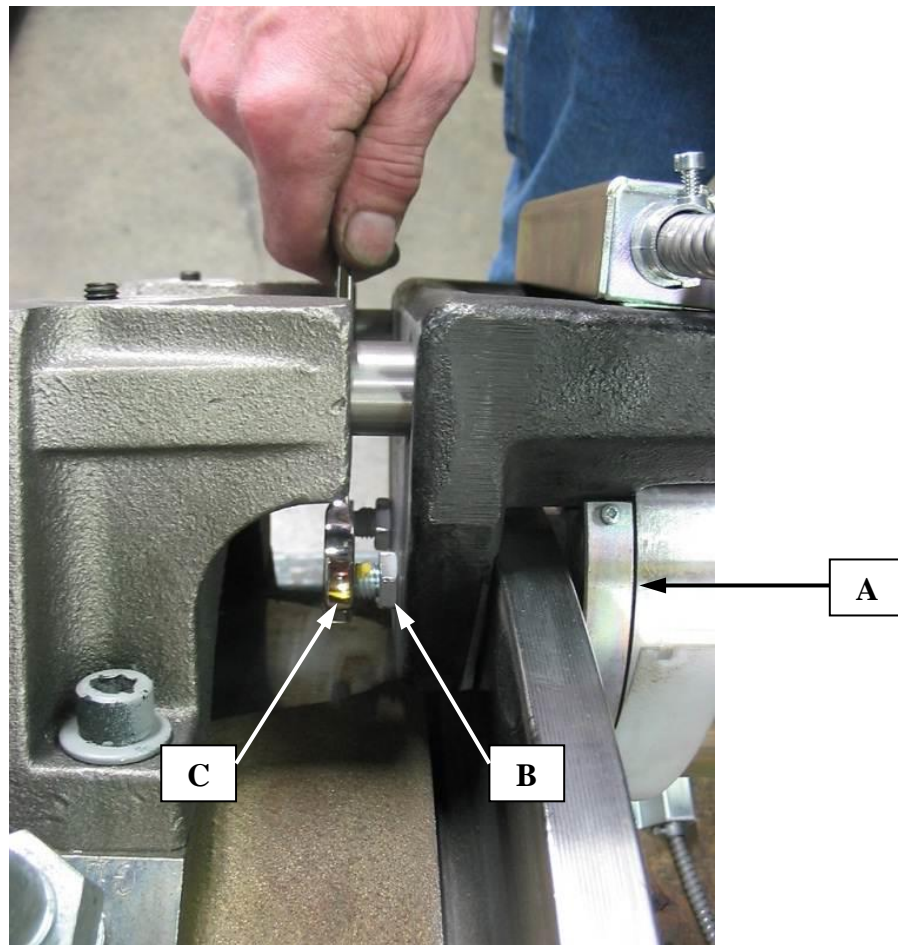

Figure 1
- Check the air gap at location "A", on both sides of the brake, as shown in Figure 1. The air gap should be 0.015".